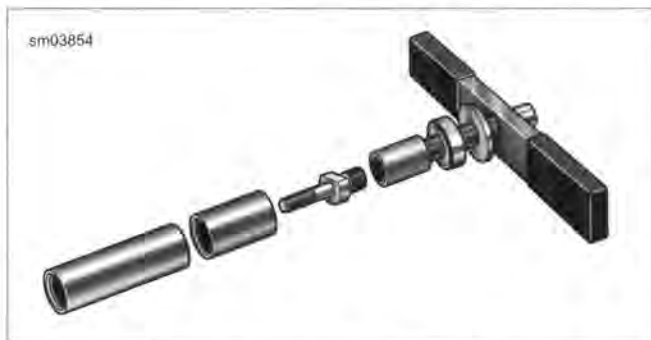

Figure 3-123. Sprocket Shaft Bearing Installer
4. See Figure 3-123. Obtain the SPROCKET SHAFT BEARING INSTALLER (Part No. HD-97225-55C). Assemble tool as described below.